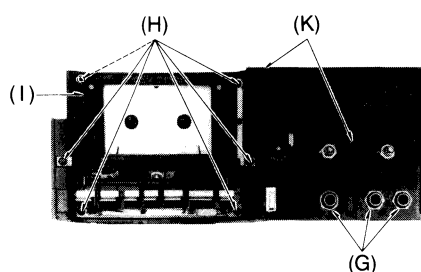
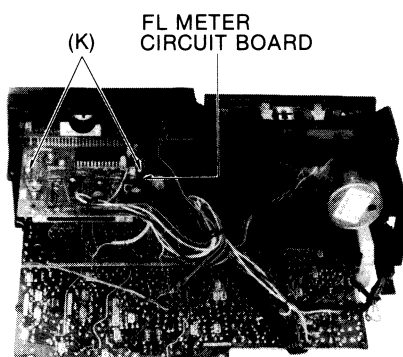

Fig. 4
Fig. 5
<p>B Head azimuth adjustment</p> <p>Condition:</p> <ul style="list-style-type: none"> • Playback mode • Normal tape mode <p>Equipment:</p> <ul style="list-style-type: none"> • VTVM • Oscilloscope • Test tape (azimuth) ... QZZCFM 	<p>L-ch/R-ch output balance adjustment</p> <ol style="list-style-type: none"> 1 Make connections as shown in fig. 4. 2 Playback the 8kHz signal from the test tape (QZZCFM). Adjust screw (B) in fig. 5 for maximum output L-ch and R-ch levels. 3 Turn the screw shown in fig. 5 to find angles A and C (points where peak output levels for left and right channels are obtained). Then, locate the angle B between angles A and C, i.e., a point where L-ch and R-ch output levels come together at maximum. (Refer to figs. 5 and 6.)  <p style="text-align: center;">Fig. 4</p>  <p style="text-align: center;">Fig. 5</p>  <p style="text-align: center;">Fig. 6</p> <p>L-ch/R-ch phase adjustment</p> <ol style="list-style-type: none"> 4 Make connections as shown in fig. 7. 5 Playback the 8kHz signal from the test tape (QZZCFM). Adjust screw (B) shown in fig. 5 so that pointers of the two VTVMs swing to maximum and a waveform as illustrated in fig. 8 is obtained on the oscilloscope.  <p style="text-align: center;">Fig. 7</p>  <p style="text-align: center;">Fig. 8</p>
<p>ⓔ Playback gain</p> <p>Condition:</p> <ul style="list-style-type: none">• Playback mode• Normal tape mode <p>Equipment:</p> <ul style="list-style-type: none">• VTVM • Oscilloscope• Test tape... QZZCFM	<div><div><div>1. Test equipment connection is shown in fig. 4.</div><div>2. Playback standard recording level portion on test tape (QZZCFM 315 Hz), and using VTVM measure the output level at LINE OUT.</div><div>3. Make measurement for both channels.</div></div><div><div style="border: 1px solid black; padding: 5px; text-align: center;">Standard value: 0.4V ± 2 dB [around 0.42V: at test points TP5 (L-CH) and TP6 (R-CH)]</div></div><div><p>Adjustment</p><div><div>1. If measured value is not within standard, adjust VR1 (L-CH), VR2 (R-CH) (See fig. 2 on page 4).</div><div>2. After adjustment, check "Playback frequency response" again.</div></div></div></div>